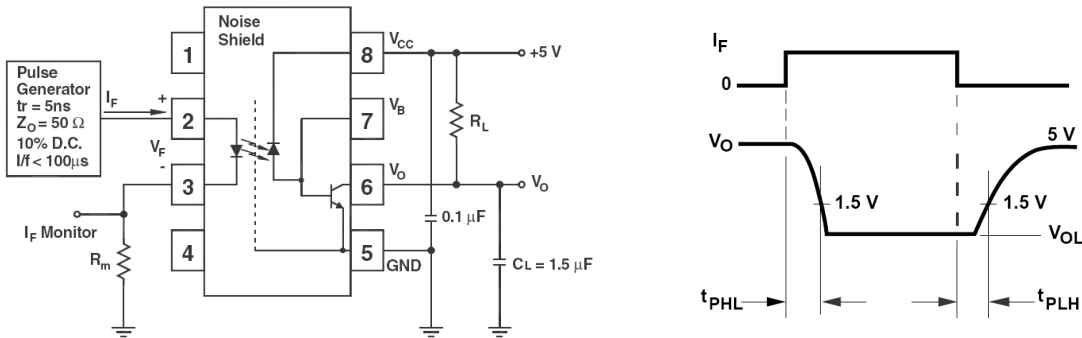

Figure 1: Single Channel Test Circuit for t_{PHL} and t_{PLH}
1. A 0.1μF or bigger bypass capacitor for V_{CC} is needed as shown in Fig.1